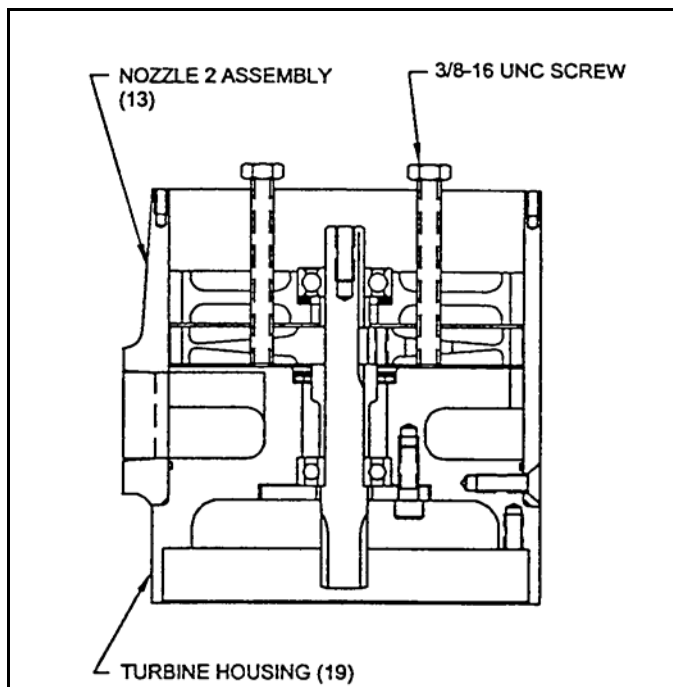

Figure 7. Nozzle 2 Removal
Remove five screws (17) from the stage 2 nozzle (16) and separate it from turbine housing (21). If turbine housing is too tight, it can be removed by installing two threaded screws into nozzle 2 (exhaust end) and using them as jacks to separate the turbine housing from nozzle 2. The stage 1 rotor may require slight rotation to allow the threaded screws to travel through the holes in the rotor. Refer to *Figure 7*.